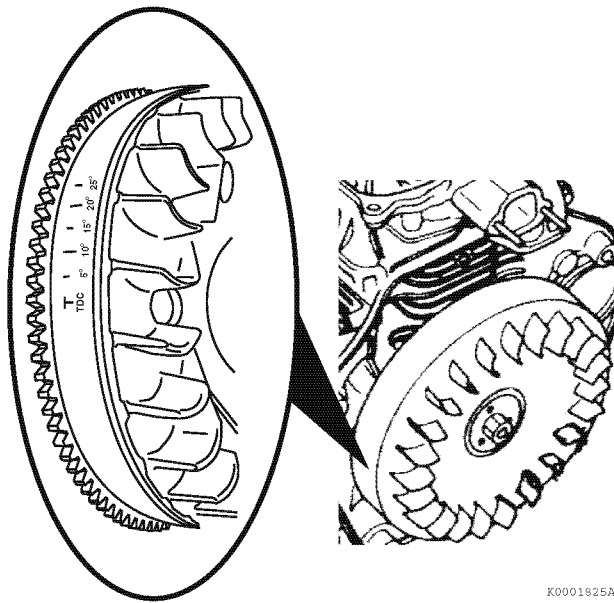

Figure 6-30
6. Rotate the flywheel to position the existing TDC mark at approximately 90° bTDC (**Figure 6-30**).
14. The mid point (2, **Figure 6-33**) (divide the distance by 2) of the distance measured is the new TDC cooling fin mark. Use a scribe or fine point marker to mark this position on the cooling fin as the new true piston TDC. **Figure 6-30** illustrates an example.